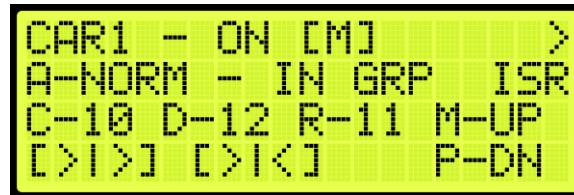

Figure 263: Car Data Overview Status
2. From the Car Data Overview Status (See Figure 263), press the right button.